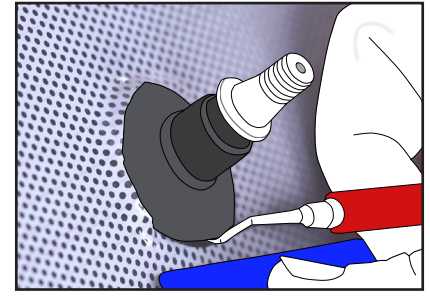

Figure 24
- › Lift the rubber with the HEXCROCH hook. (FIG. 24)